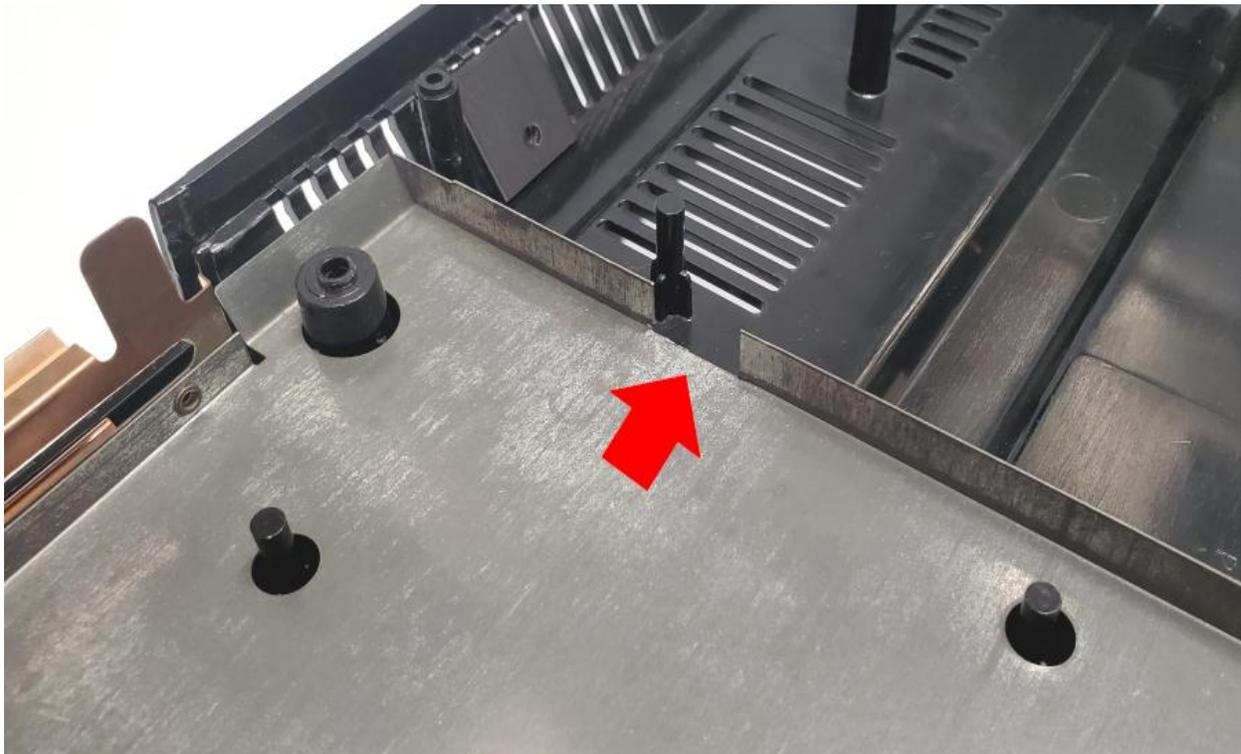

Figure 12: Add notch to lower shield
Step 9: The lower shield requires adding a notch with tin snips to the lower RF shield to make room for the new Pause Mod controller wiring. See **Figure 12**.